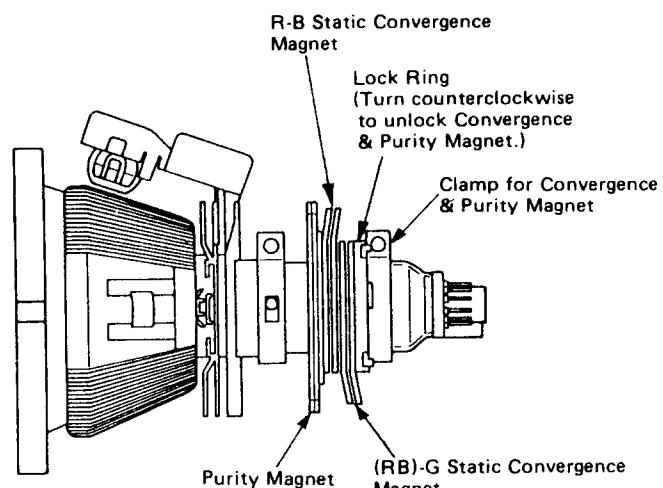
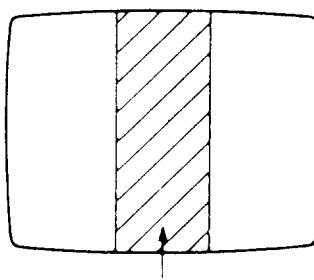

Figure 28
Figure 30
- Loosen the convergence magnet lock ring and converge the red and blue lines at the center of the screen, by rotating the R-B Static Convergence Magnet. (See figure 28)
- Align the converged red/blue lines with the green lines at the center of the screen by rotating the (RB)-G Static Convergence Magnet. (See figure 28)
(See figure 28 and 30)
- g) Loosen the purity magnet lock ring (see figure 28) and adjust the purity magnet to set the vertical green raster precisely at the center of the screen. (See figure 30) Then tighten the lock ring.